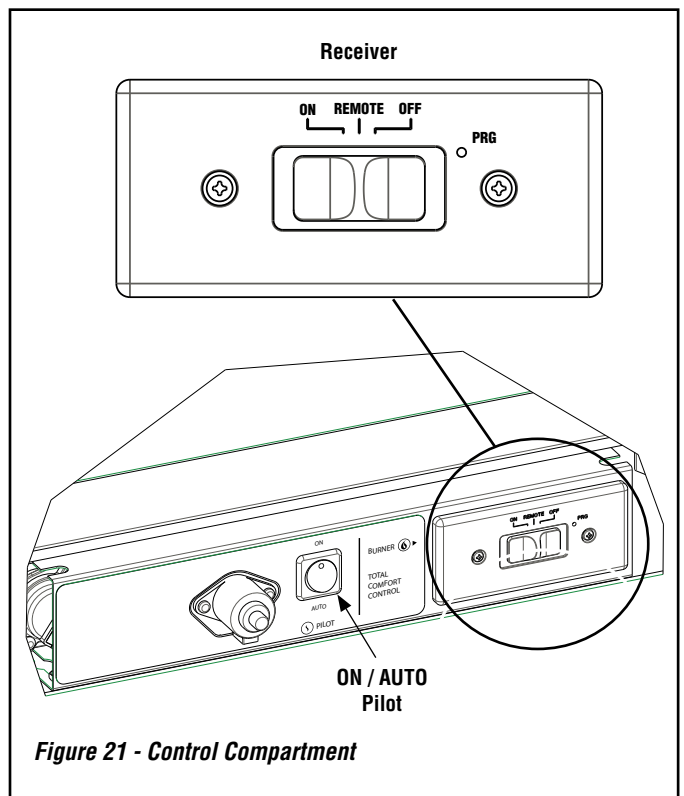

Figure 21 - Control Compartment
Place the 3 position slider switch in the "Remote" position (see *Figure 21*). Using the end of a paper clip, or other similar object, insert the end of the paper clip into the hole marked "PRG" on the Receiver front cover. The Receiver will "beep" three (3) times to indicate that it is ready to synchronize with the Remote (transmitter).
NOTE: The blower can be controlled only by the remote. Turning the appliance off with the unit mounted three position slider switch (**Figure 21**) will NOT turn off the blower. To turn off the blower, use the remote in lieu of or prior to shutting the appliance off at the three position slider switch (**Figure 21**).